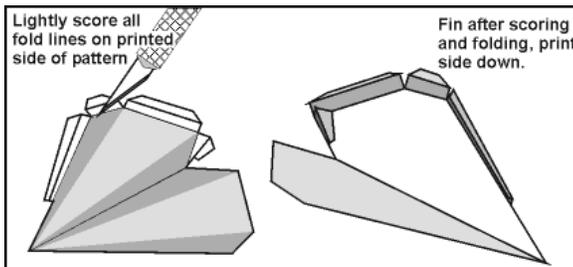

Figure 6
6. Using a straight edge and razor knife, cut out a Fin from the provided pattern sheet. **LIGHTLY** score each of the fold lines, from the printed size, using your knife and straight edge as shown in **Figure 6**, on the right. You should have 9 score lines (2 for each tab and one long one along the center of the Fin). **NOTE:** Do **NOT** cut all the way through the material. Just enough to enable easy folding along these lines. After scoring, gently fold at each score line as show on the right of Figure 6. Repeat for the remaining two fins.